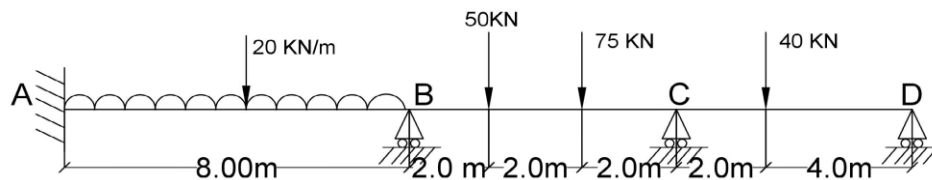

Figure 5.1
7. Find the required value of plastic moment capacity at collapse load for the continuous beam shown in figure 5.1. Take $AB = 2 M_P$; $BC = 1.5 M_P$; $CD = M_P$